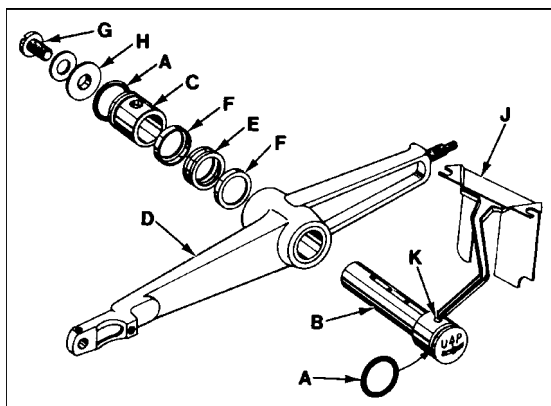

Fig 17
1. Install "O" rings (A, Fig. 17) onto needle lever stud (B) and thrust collar (C).
2. With needle lever (D) in machine and positioned properly; insert stud (B) through hole in needle lever until its shoulder contacts the needle lever and the word "UP" on stud is in the upright position. While making sure no binding exists in the needle bar link, secure stud (B) with the front set screw in top of machine bed.
3. Install temper load ring (E) and compression cups (F) onto stud (B), then push ring and cups through opening in machine bed.
4. Install thrust collar (C) onto stud (B) being careful not to damage "O" ring. Compress components together by tightening screw (G) until washer (H) bottoms against stud (B). Secure stud (B) in position using the rear set screw in top of bed.
5. To check temper load ring for proper compression, remove screw (G) from stud (B) and loosen rear set screw in top of bed. Thrust collar (C) should spring out .003 - .007 inch (.08 - .18mm). Compress load ring in reverse order, then tighten rear set screw.
6. With indented "UP" on stud (B) in upright position, install bearing oiler (J) so its hook sets in oil supply hole (K) of stud. When hook and stud are secured in their proper positions, the proper amount of oil will be channeled to stud for lubricating needle lever (D).